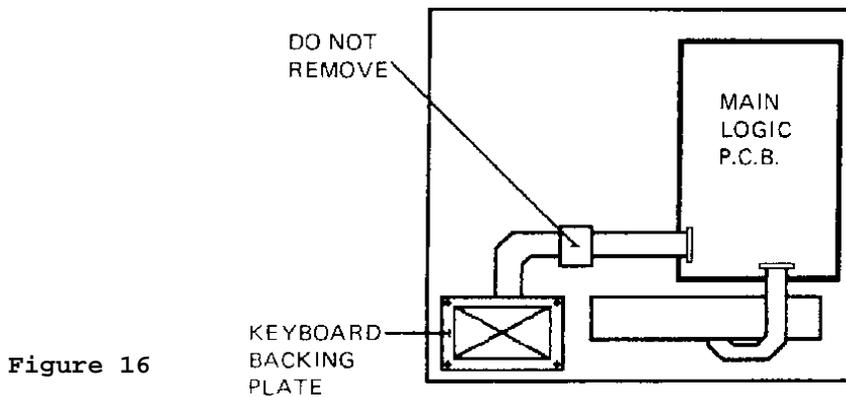

Figure 16
3. Unplug keyboard ribbon connector from the Main PCB and gently slide the ribbon harness through the flat cable clamp (see Figure 16). Do not remove cable clamp.
4. Remove the four retaining screws that hold the keyboard backing plate. Remove backing plate and keyboard assembly (see Figure 16).
6. Slide the ribbon harness back through the clamp. Make sure that the solid color side of the harness is installed towards the cover (striped side visible) (refer to Figure 16).